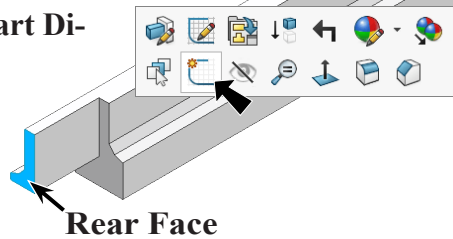

Fig. 35
Step 1. Click the **rear face** and click **Sketch**  on the context toolbar, **Fig. 35**.